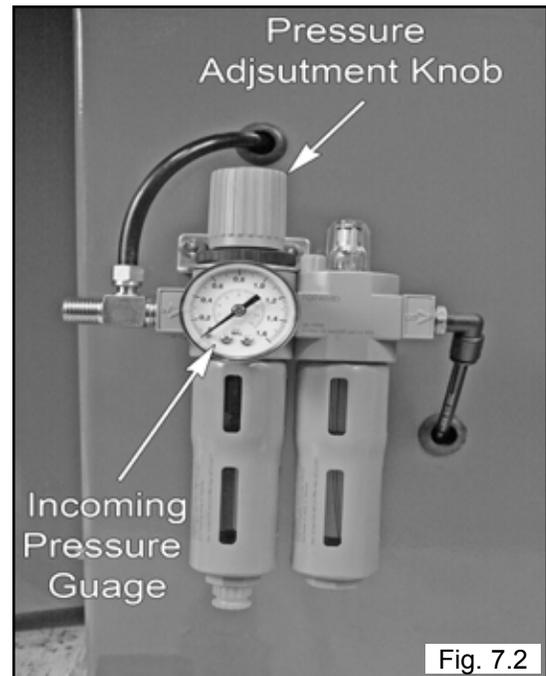

Fig. 7.2
2. Adjust Pressure by turning knob at the top of the Air Regulator and reading the Pressure on the Gauge at the top of the Air Tank/Tower. (See Fig. 7.2)